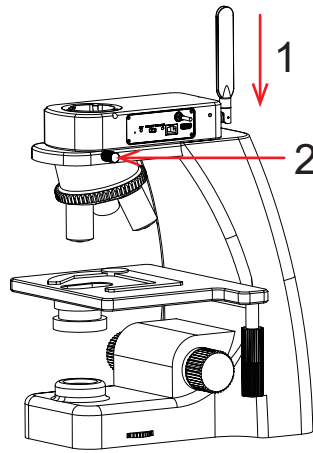

Figure 2
- 1) Snap the WiFi embedded camera to the objective end of the microscope, oriented as in Figure 2;